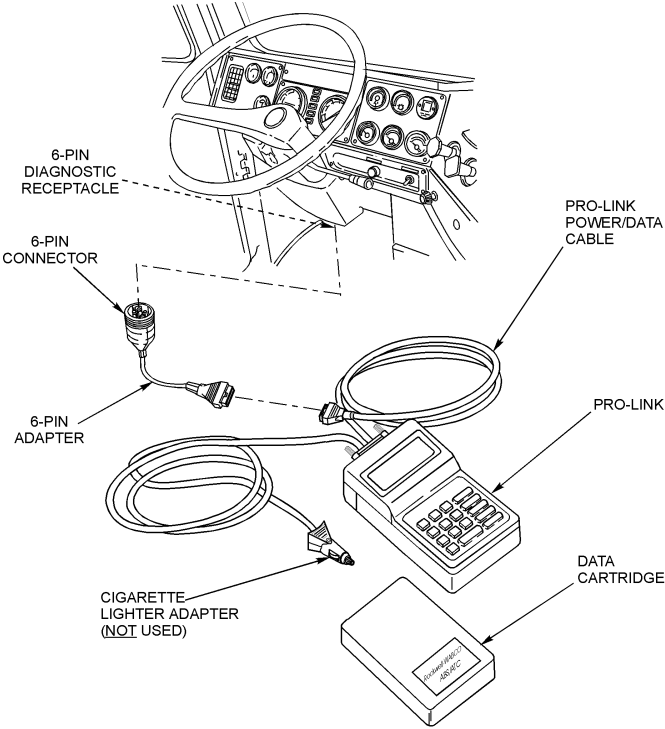

Fig 15. Pro-Link Hook-up to Vehicle
- c. Locate the 6-pin diagnostic receptacle in the vehicle cab. Insert the 6-pin connector from the Pro-Link into the receptacle. See Fig 15.